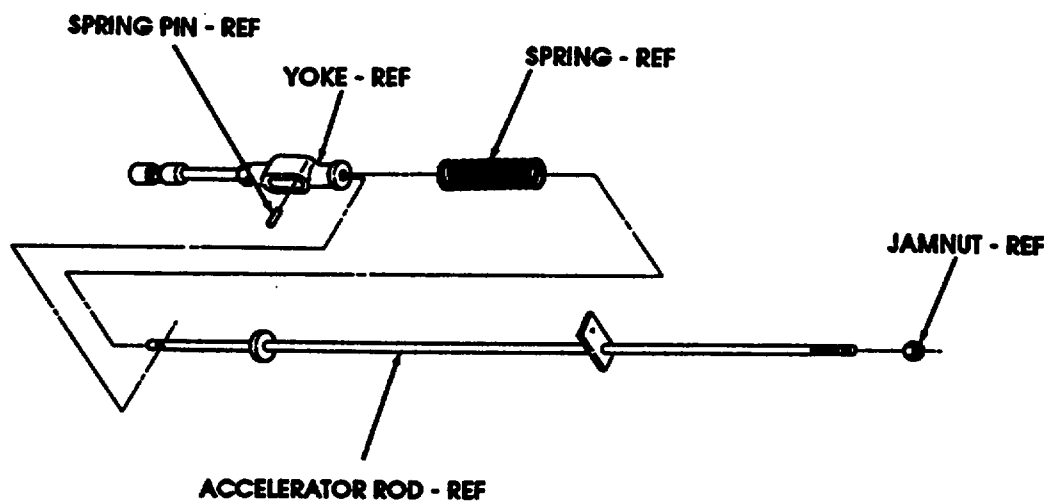

FIGURE 3
- (8) Remove jamnut, spring pin, yoke, and spring from accelerator rod as shown in figure 3.